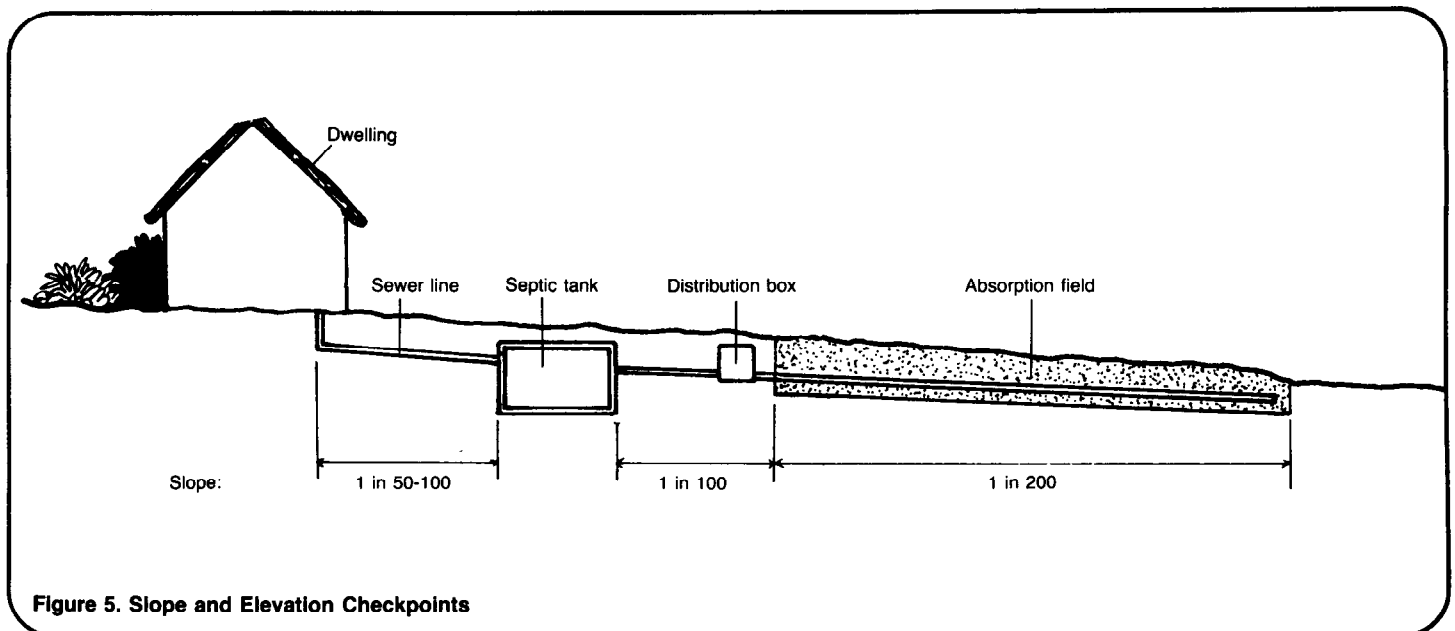

Figure 5. Slope and Elevation Checkpoints
Sewer pipe. The pipe must be of noncorrosive, durable material such as cast-iron soil pipe, vitrified clay, concrete, bituminized fiber, asbestos cement, or plastic. The trench line for the pipe should be as straight as possible from the dwelling to the septic tank and from the tank to the absorption field. Avoid bends. Plan the pipe line so that it falls evenly and smoothly from the dwelling to the tank with a slope of 1 in 50 to 1 in 100, and from the tank to the field with a slope of 1 in 100. Figure 5 shows the slope of these pipes. The total length of pipe needed will be the distance along the trench line from the dwelling to the tank and from the tank to the absorption field (see "Designing Subsurface Absorption Systems," SAN.2.D.1). Sewer pipe is generally 100mm in diameter.
2. The entire system must be designed so that sewage moves by gravity flow from the building, through the septic tank, and to the subsurface absorption system. As Figure 5 indicates: